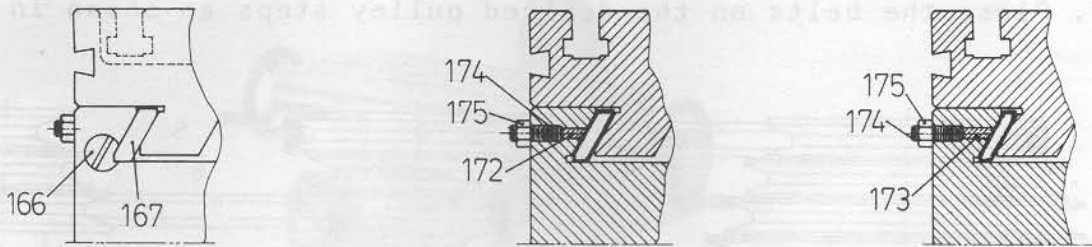

FIG. 4
- B. To adjust left and right travel, adjust large screw (Part#166) until a slight drag is felt when turning the table (Fig. 4).